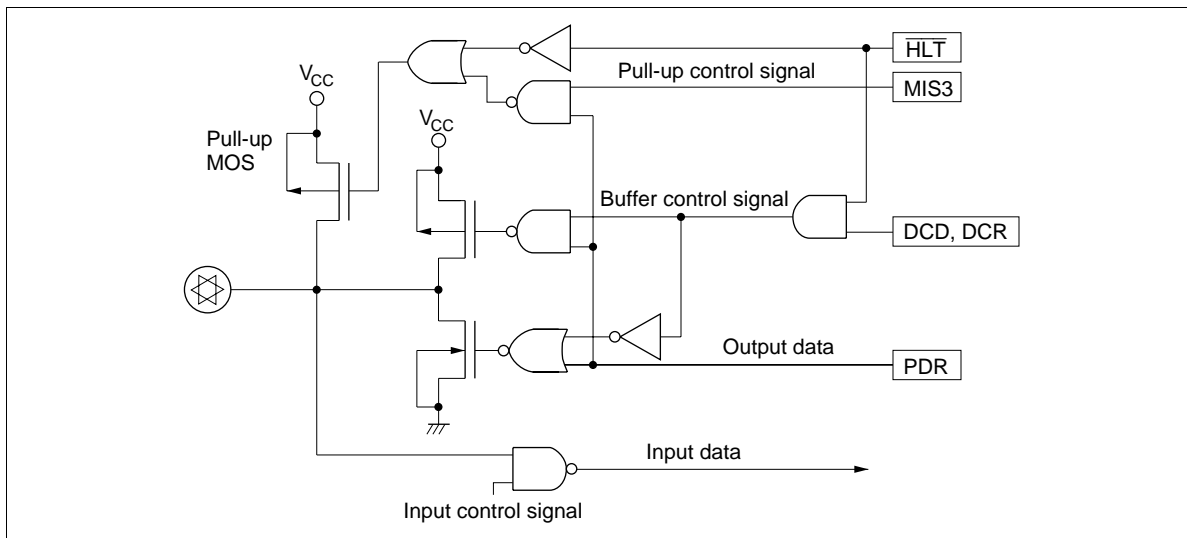

Figure 29 I/O Buffer Configuration
- Each input/output pin has a built-in pull-up MOS (figure 29), which can be individually turned on or off by software.